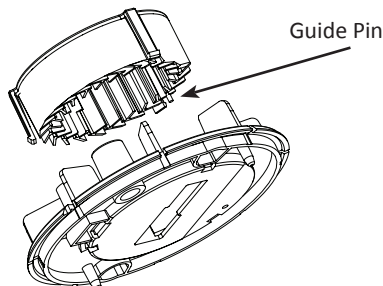

FIGURE 9: Replace Optic Cage into Optic Cage Base
- After cleaning with clean compressed air, replace the optic cage by lining up the three connector arms and the guide pin into the optic cage ring and gently pushing until it clicks (FIGURE 9).